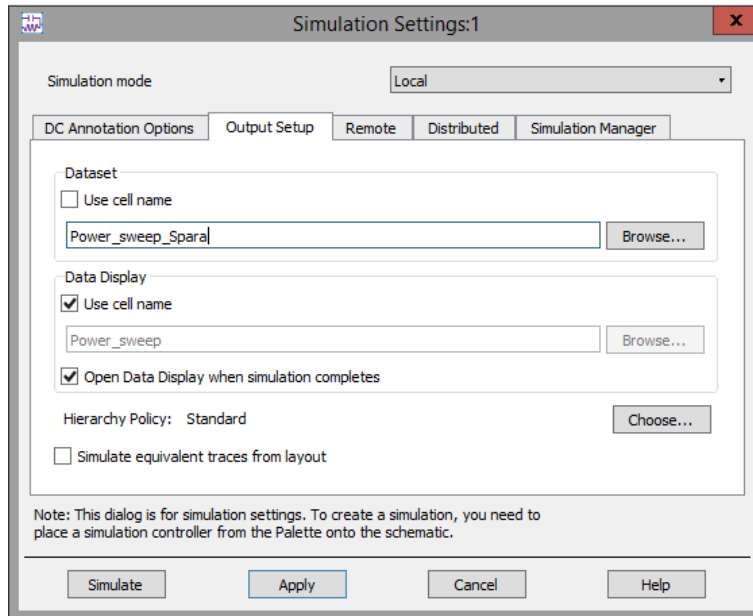

Figure 4: Simulation Settings
- Before Simulation, go to Simulate ⇒ Simulate Settings from top menu and change the Dataset name to Power\_sweep\_Spara as shown in Figure 4